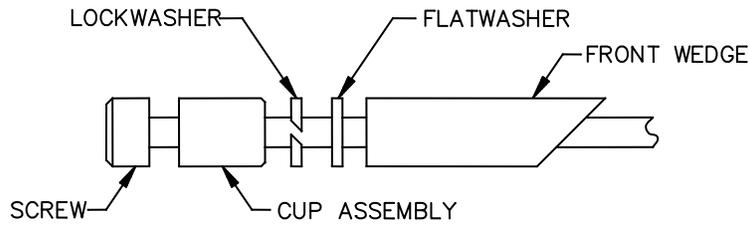

FIGURE 4. Lockwasher and flat washer details.
**Configuration.** The configuration of a card holder shall be as specified in table II. The details of a particular configuration consist of those on figures 1, 2, 3, and may include those on figures 4 and 5. The correct PIN configuration identifier for each option is listed in table II. Card holders not requiring the options described by table II shall leave the configuration position in the PIN blank.
**Lockwasher and flat washer (see figure 4).** The use of a lockwasher and flat washer located under the screw head will provide for additional resistance to loosening of the card holder assembly from shock and vibration. Card holders requiring a lockwasher and flat washer shall include a suffix "W" in the PIN (see table I, classification and notes herein).